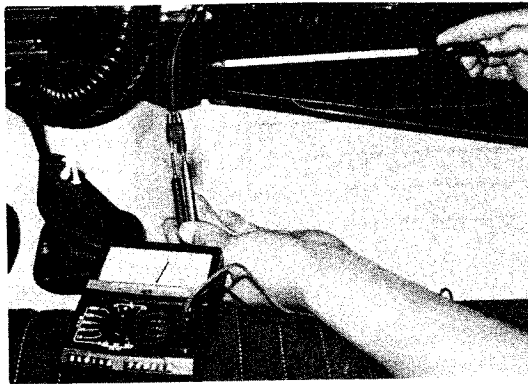

Fig. 73
- 3) Measure the resistance of the thermistor, at the same time measure the surrounding air temperature. See Fig. 73.